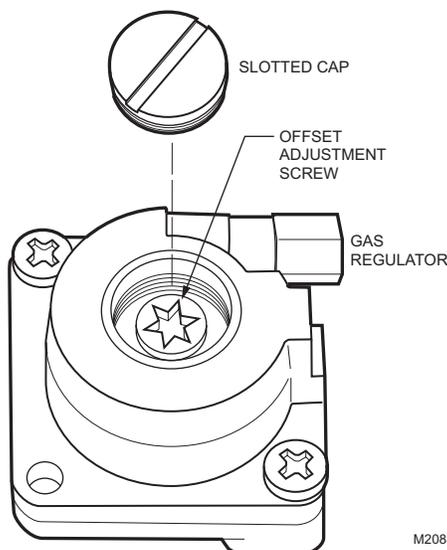

Fig. 11. Regulating adjusting screw.
2. Remove the slotted cap on the gas regulator using a slotted screwdriver. This will expose the offset adjustment screw (see Fig. 11).